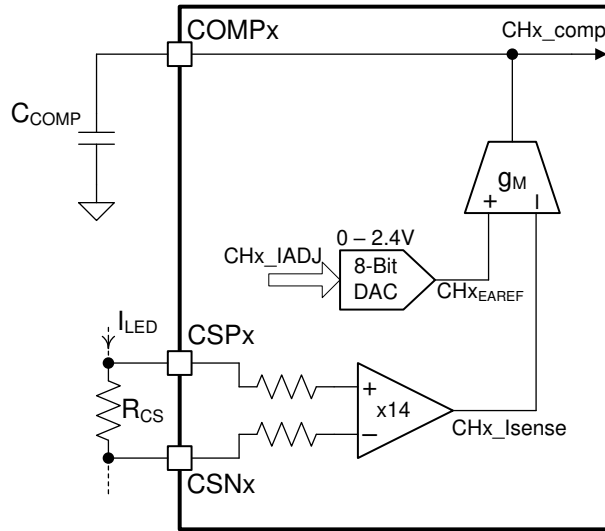
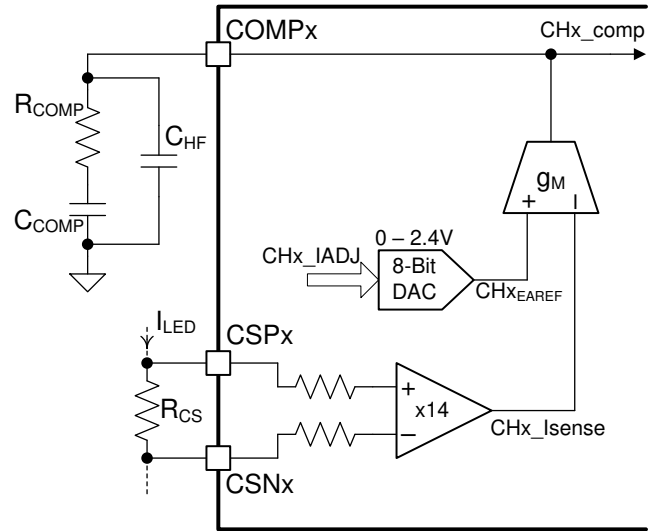

FIG 8-4. Integral Compensator
FIG 8-5. Proportional Integral Compensator
The feedback transfer function includes the current sense resistor and the loop compensation of the transconductance amplifier. A compensation network at the output of the error amplifier is used to configure loop gain and phase characteristics. A simple capacitor, C_{COMP} , from COMPx to GND (as shown in 图 8-4) provides integral compensation and creates a pole at the origin. Alternatively, a network of R_{COMP} , C_{COMP} , and C_{HF} , shown in 图 8-5, can be used to implement Proportional-Integral (PI) compensation to create a pole at the origin, a low-frequency zero, and a high-frequency pole.